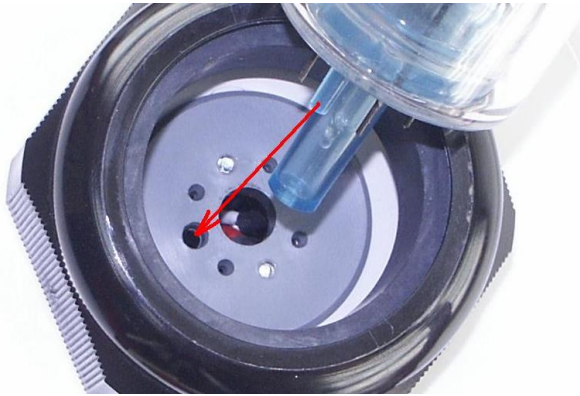

Fig. 1: Insertion of tube
- Insert the tube vertically downward, making sure that the contact pins and the coding pin are correctly aligned (see Fig 1).